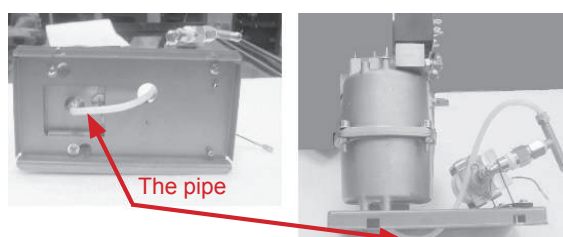

Figure 52
5. Place a container under the boiler and remove the pipe from the bottom of the boiler (figures 52) by loosening the fixator screw. Then turn the machine ON and wait until all the water would be flushed from the boiler (until the water stops dripping).